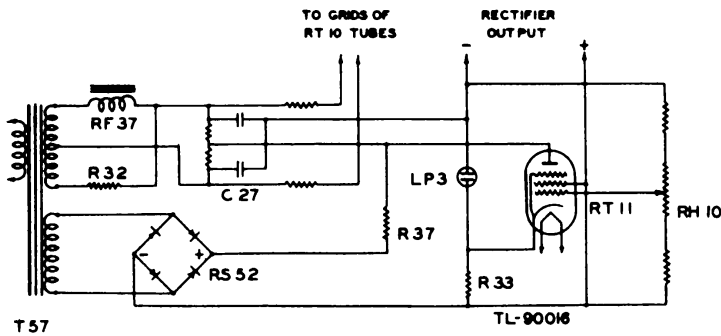

Figure 12. Functional diagram, electronic control circuit.
14. ELECTRONIC CONTROL CIRCUITS (figs. 12 and 13).
b. Figure 12 shows the control circuits used for automatic adjustment of the rectifier tube grid voltage to regulate the d-c output of Rectifier RA-43-B. The functioning of this circuit is described in paragraph 14.